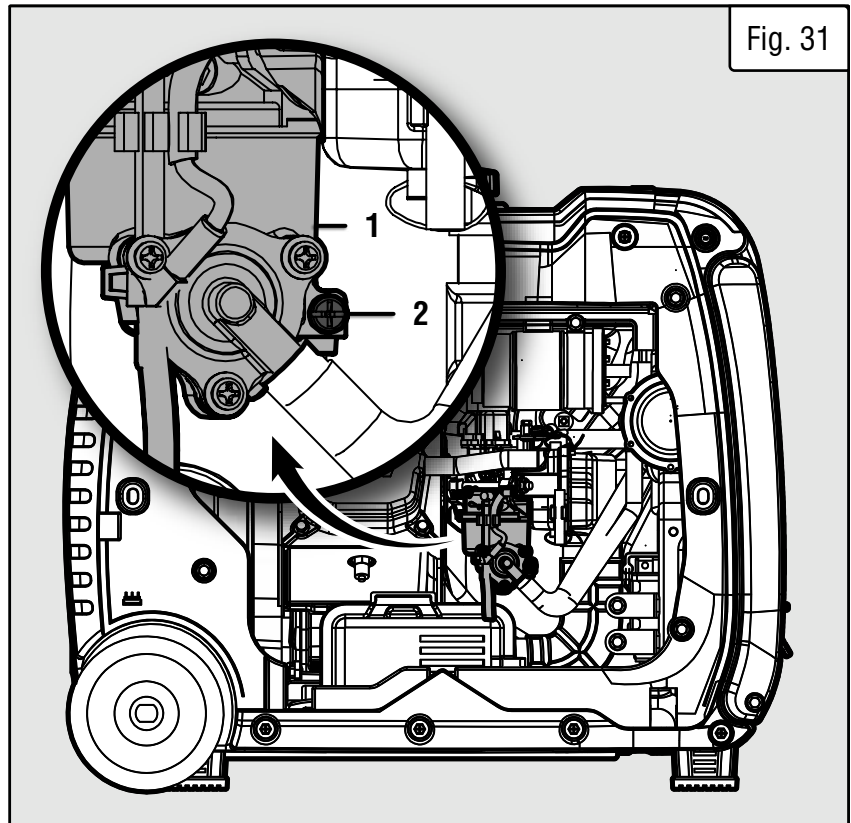

Fig. 31
4. The carburetor (Fig. 31 - 1) can be accessed between the engine and the air filter. Locate the transparent tube from the carburetor that extends down through the base plate of the generator.
6. Open up the carburetor drain screw (Fig. 31 - 2) with a Phillips-head screwdriver and drain out any gasoline that has built up inside the carburetor through the drain tube into the approved gasoline-storage container.